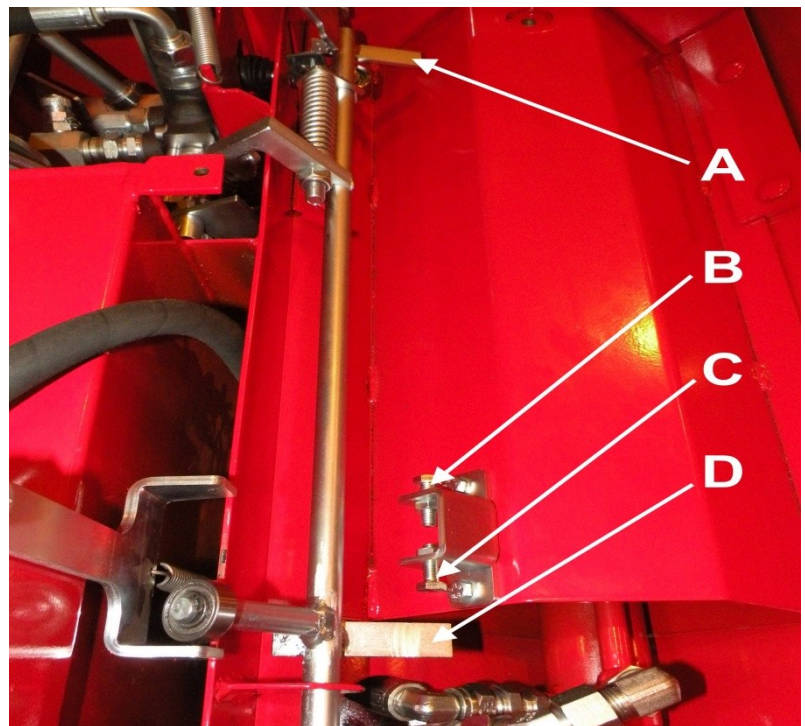

Figure 26.
3. The adjustment screw B (Figure 26) defines the stroke length of the splitting cylinder, i.e. the phase in which the splitting valve turns from the splitting position to the reverse position. If the stroke is too short, for example, (i.e. the splitting cylinder does not go sufficiently close to the splitting knife) rotate the adjustment screw B further in relation to the plate A (Figure 26).
4. The adjustment screw C (Figure 26) defines the initial position of the splitting cylinder. By adjusting the screw, you can affect when the splitting valve stops the reverse motion of the splitting cylinder and stops the cylinder altogether. If the splitting beam will not go into the initial position properly (i.e. the beam remains visible on the side of the splitting groove), turn the adjustment screw C further in relation to the plate D.